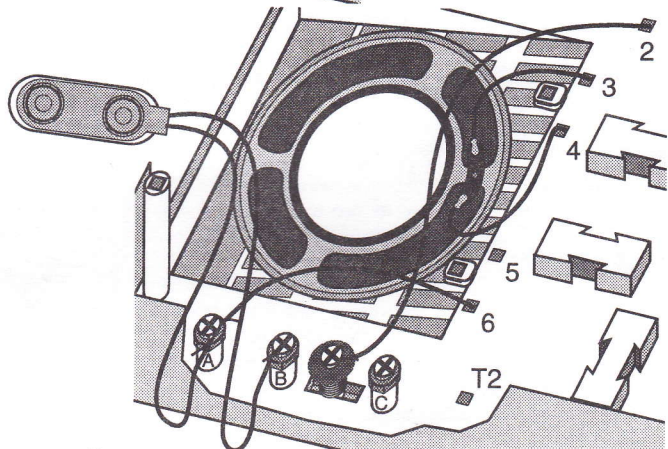

FIG. 10
- A) Place the speaker face down on the grill as shown in Figure 10.